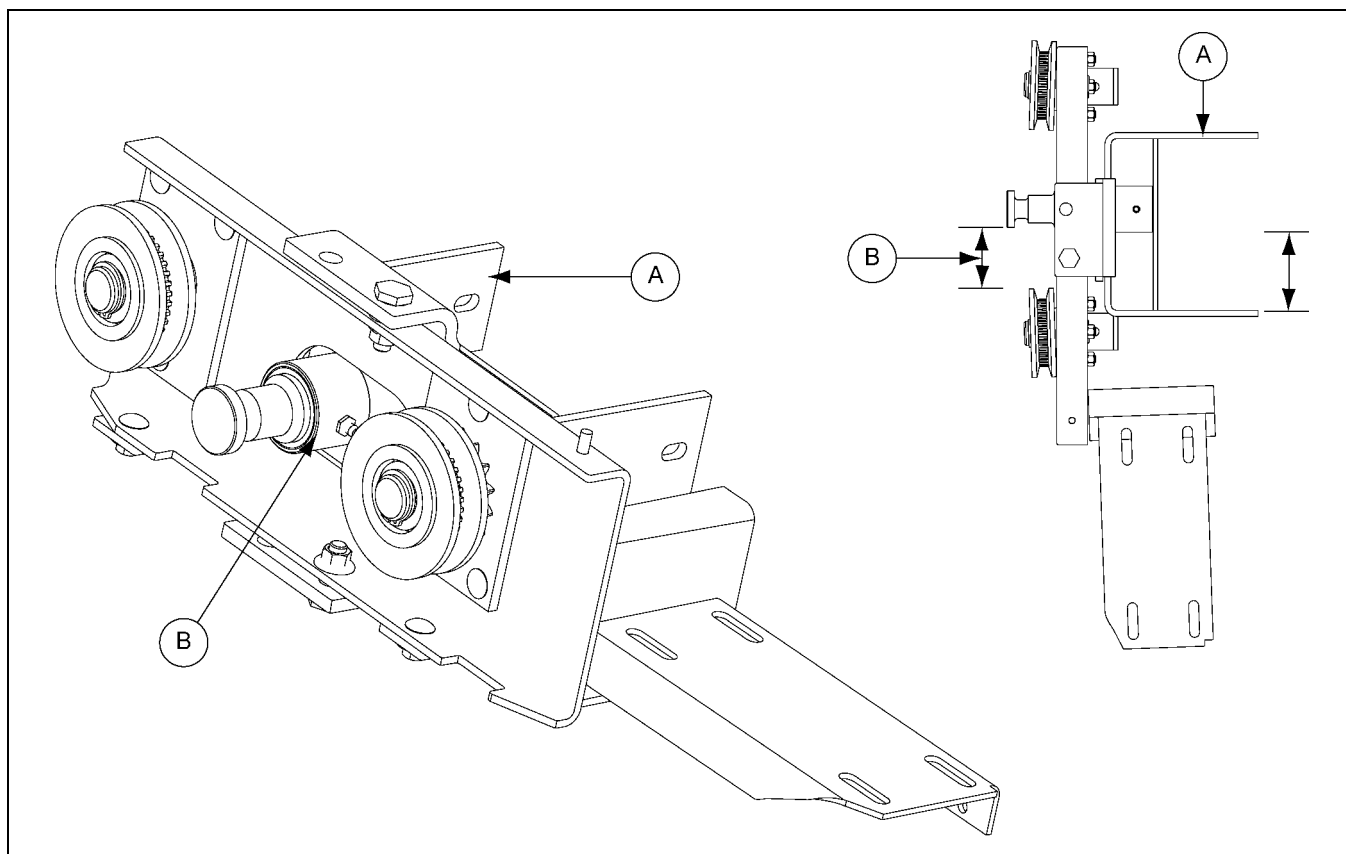

Figure 1 *Current, Incorrect Position*
4. Turn over the pivot bracket (A) and install it into the 1.5 HP position using the previously removed bolts. See Figure 1 to view the **incorrect** positioning of the pivot shaft in the slot cut-out of the track assembly (B).